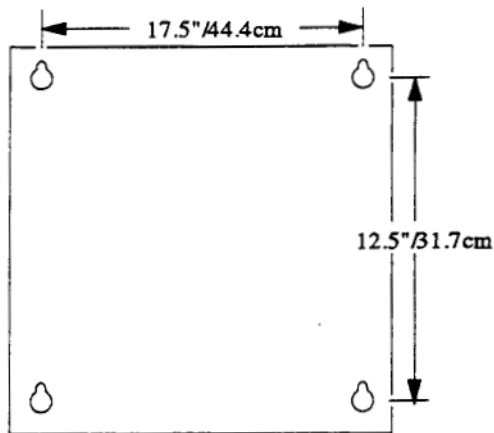

Figure 4 - Turbo Superterm Cabinet Mounting Hole Dimensions
2. Mark the four mounting holes against the mounting surface using the Turbo Superterm cabinet as a template or using the measurements provided in Figure 4.